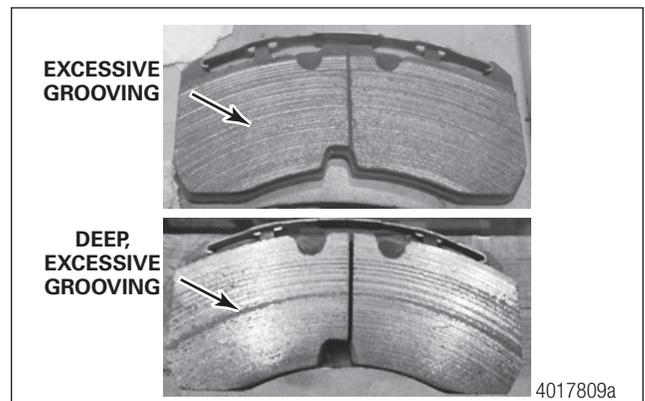
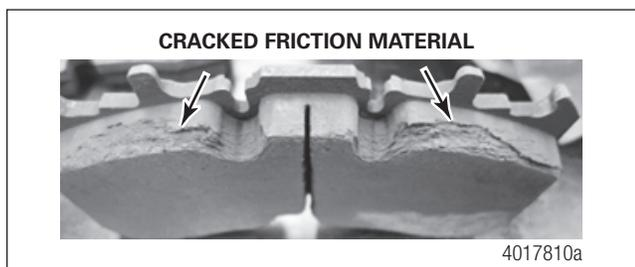

Fig. 6.11
Fig. 6.12
STEP 9 - Inspect the brake pads for excessive grooving or cracked friction material. Check if the friction material is loose or detached from the backing plate. If necessary, replace the brake pad assemblies as directed above. Figure 6.11 and Figure 6.12.